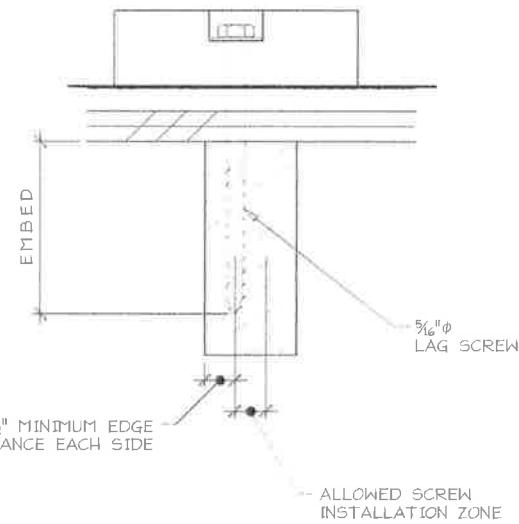

Figure 3. Typical Anchor with Lag Screw Attachment.
1) Anchor fastener data (see Figure 3):